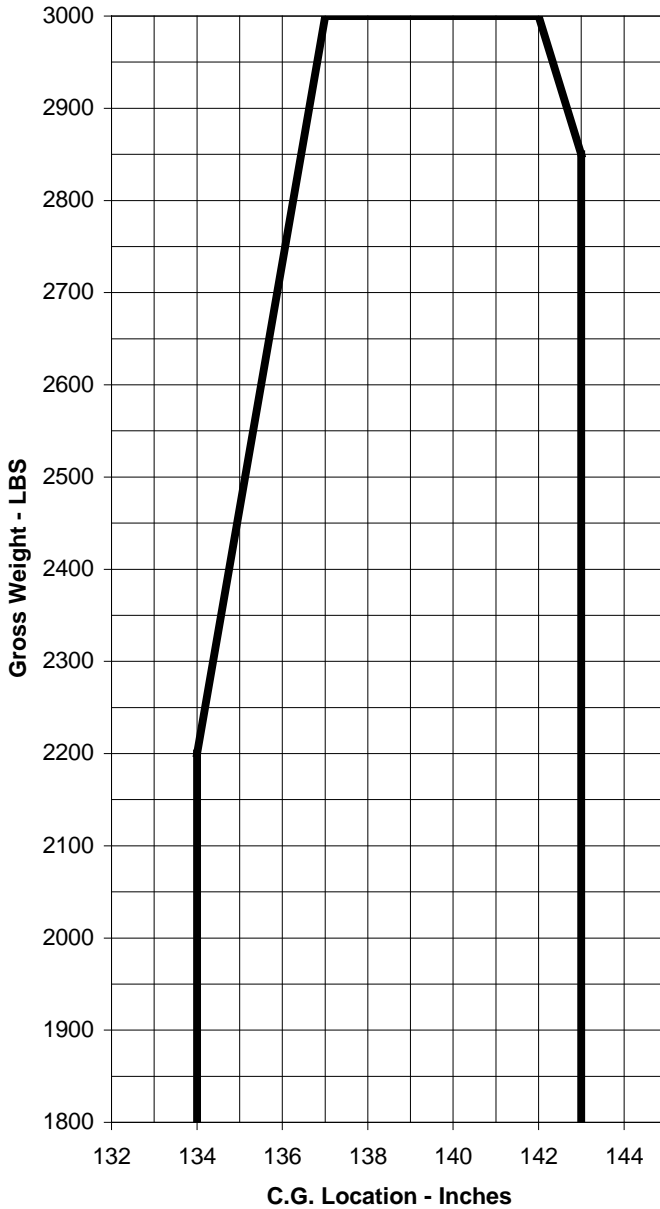

Figure 5-1-1. Center of Gravity Envelope
1. See Section VI, Weight and Balance, and Figure 5-1-1, Weight and Balance.
2. The Center of Gravity Limits remain the same as listed in the Basic Flight Manual with the exception of the extension in the aft c.g. limit at weights between 2,500 lbs and 3,000 lbs. The maximum aft c.g. limit at and below 2,850 lbs for cargo hook operations is 143.0 inches. At weights between 2,851 and 3,000 lbs, the aft c. g. limit decreases linearly from 143.0 inches to 142.0 inches. See Figure 5-1-1.